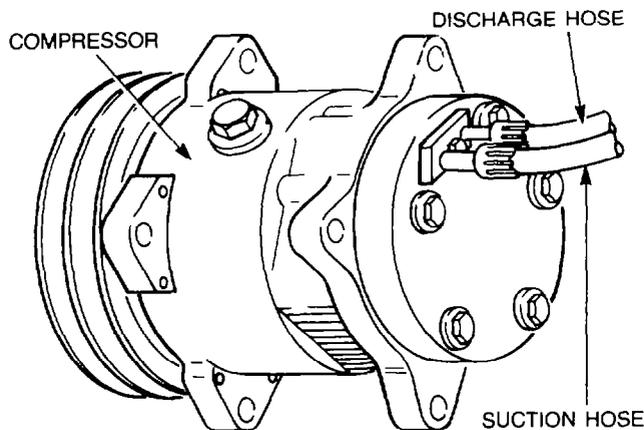

Figure 16 — Suction and Discharge Lines — Removal (Compressor)
- b. Remove the bolt from the locking plate securing the suction and discharge lines to the compressor, then pull the lines from the apertures in the compressor (see Fig. 16). Discard the O-rings.